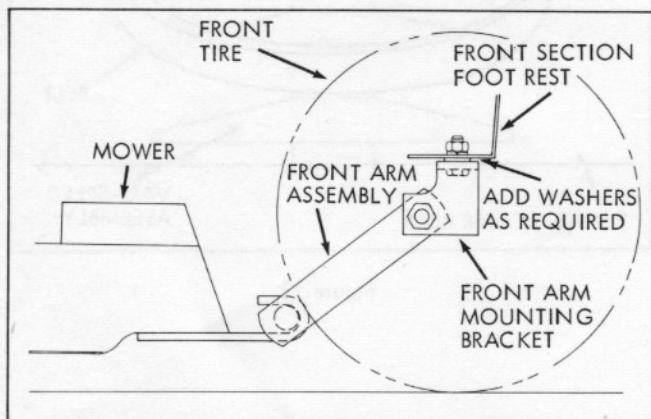

Figure 8.
- b. between the front section foot rest and the brackets, add washers as required to each bolt (See Fig. 8).